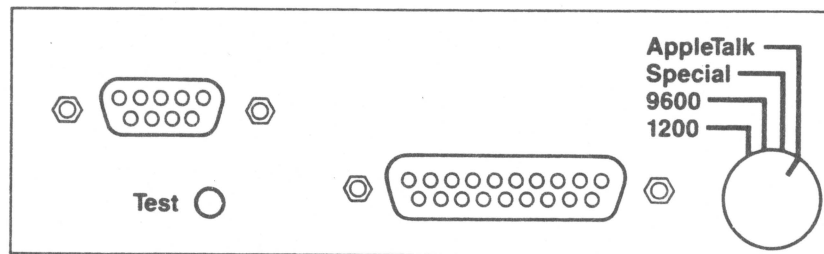

Figure 1-9 : Rear (I/O) Connector Plate
1. The TEST light on the rear (I/O) connector plate (Figure 1-9) blinks continuously if the LaserWriter I/O board is malfunctioning. (If the board is functioning correctly, this light will blink once and then go out when the printer is turned on.)